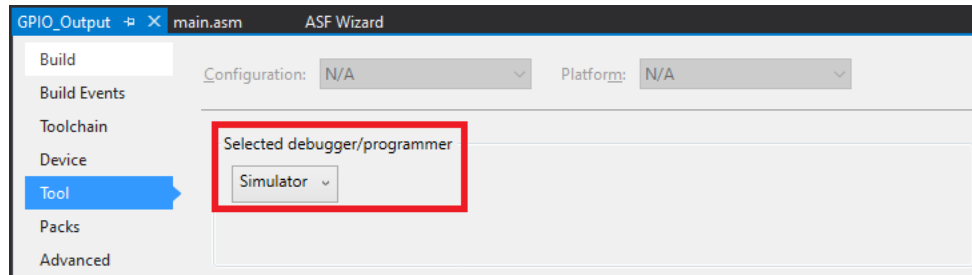

Figure 10: Selecting the Debugger.
- Under *Selected debugger/programmer*, use the dropdown menu to select *Simulator* as shown in *Figure 10*. The target selector icon should now display *Simulator*. Finalize these changes by saving the project (**File** → **Save All**) and then close the project properties window.